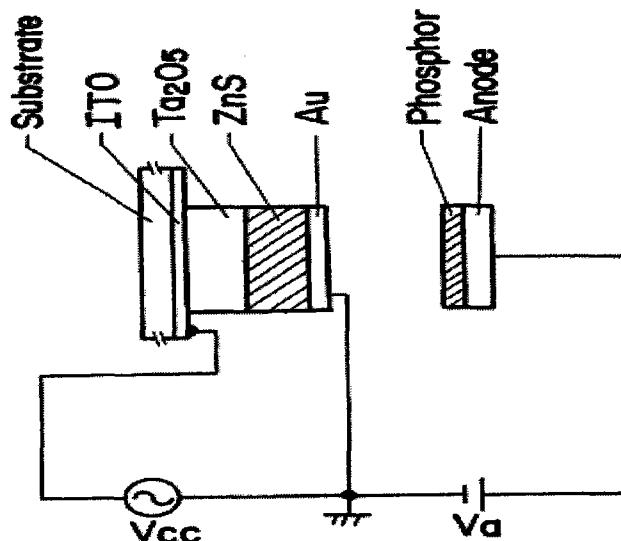

Figure 1. [Rajah 1]
**Instruction:** Answer only **FOUR (4)** questions. Students are allowed to answer all questions in Bahasa Malaysia or in English.
*[Arahan: Jawab **EMPAT (4)** soalan sahaja. Pelajar dibenarkan menjawab semua soalan sama ada dalam Bahasa Malaysia atau Bahasa Inggeris.]*
1. (a) Describe in a few words, the operation of the field emission display (FED), shown in figure 1.